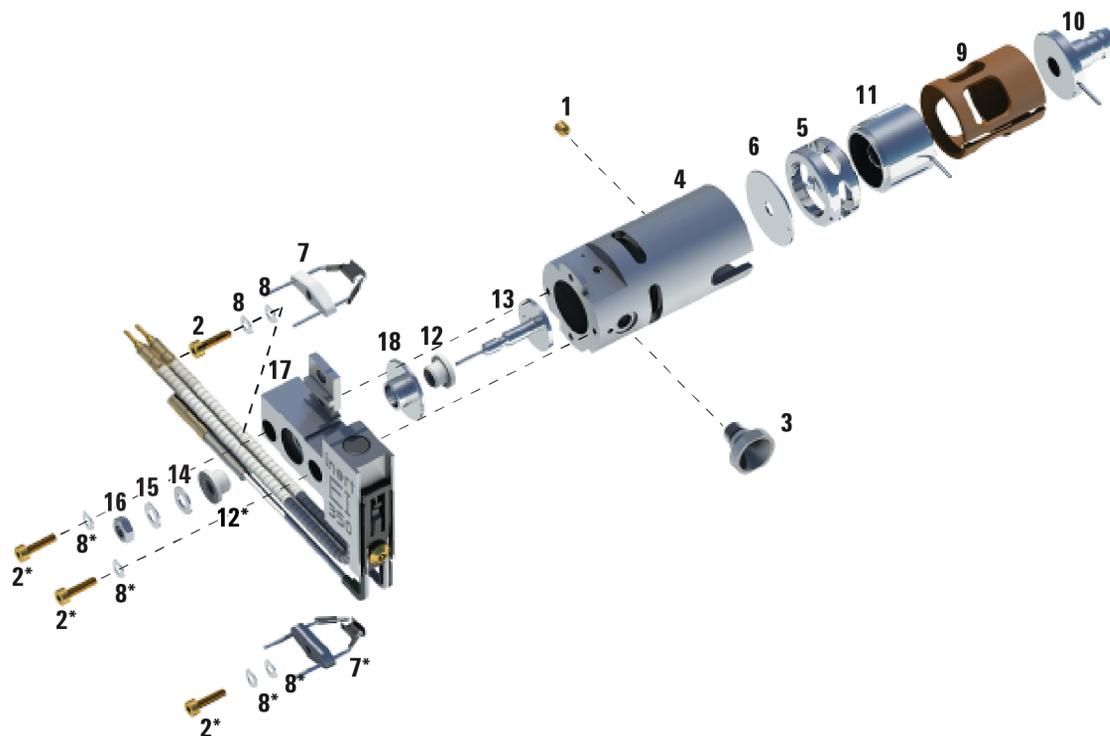

Figure 13 Disassembling the standard or inert EI ion source
- 2 Remove the two gold plated screws from the filaments and remove the filaments from the source. See Figure 13 on page 100.